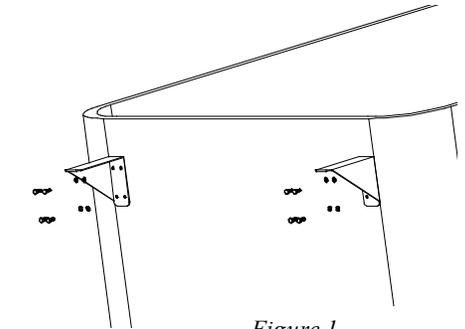

Figure 1
**Mounting the head roller braces to the front of the bulkhead, see figure 1.**